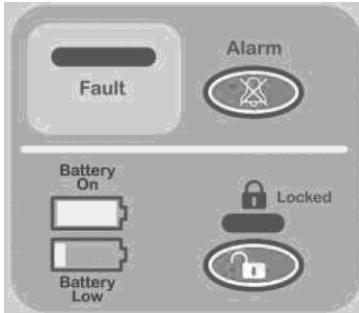

Figure 4: Dolphin alarm system
x. **Alarm (Figure 4)**
xi. **Battery Indicators (Figure 4)**